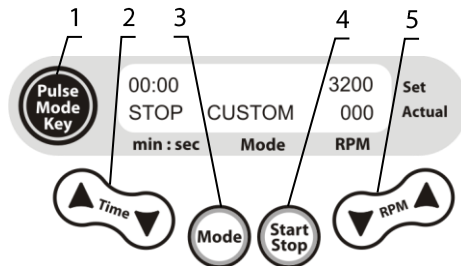

Fig. 3. Control panel
- 4.3. **Setting the working mode.** Use the **Mode** key (fig. 3/3) to set the required working mode: CUSTOM, SOFT, MEDIUM, HARD, TUBE VORTEX. Operation in SOFT, MEDIUM, HARD and TUBE VORTEX modes differ from CUSTOM mode with a fixed, non-adjustable speed value (see paragraph 5.2).
- 4.4.1. Set the required working time interval in minutes and seconds (increment 15 s) using the **Time** ▲ and ▼ keys (fig. 3/2).
- 4.4.2. When using the CUSTOM working mode, set the required speed (increment 100 RPM) using the **RPM** ▲ and ▼ keys (fig. 3/5).
- 4.5.2. Press the **Start Stop** key (fig. 3/4). The platform starts motion, and display shows countdown of the timer, in the upper line of the display.
- 4.6.2. Press the **Pulse Mode Key** (fig. 3/1). The platform starts the following cycle: acceleration – short mixing (duration 3 s) – slowdown. Display shows the ▲▲▲▲ indication and the timer countdown.